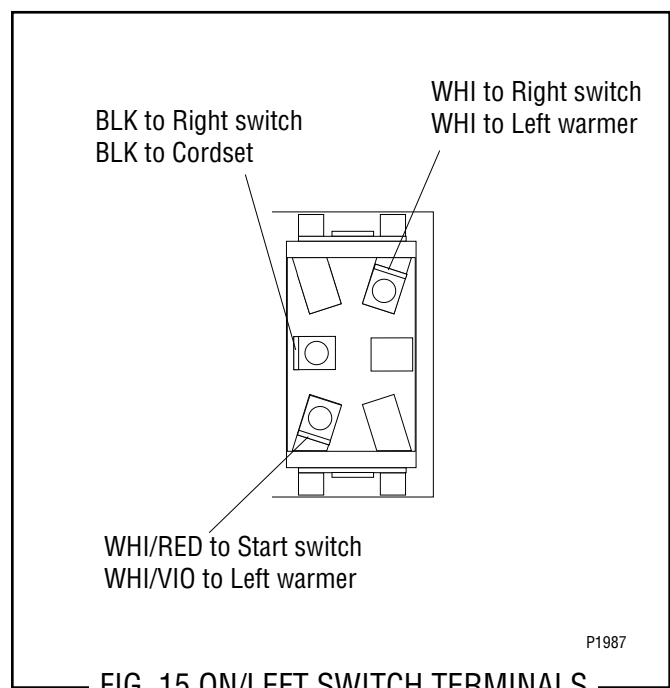

FIG. 15 ON/LEFT SWITCH TERMINALS
4. Refer to FIG. 15 when reconnecting the wires.